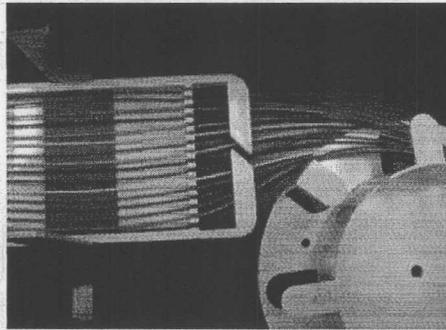

Figure 7: General Fiber Color Layout
1. Route the buffered fibers with connectors around the storage drum(s) to the couplings (**Figure 7**).
4. Organize the fibers to the splice organizers and then perform splicing(**Figure 7**). Place splices into the splice organizers in recommended sequential order as shown. Blue, Orange, Green, Brown, Slate, White, Red, Black, Yellow, Purple, Rose, Aqua and repeat.